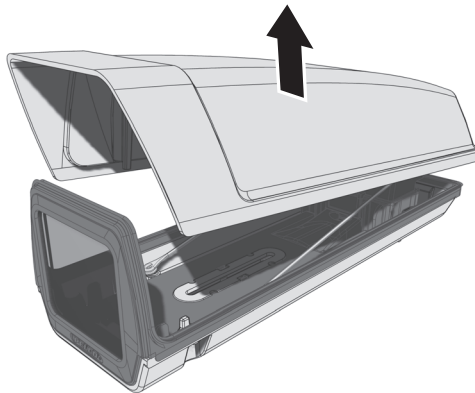

Figure 2. Removing the Lid
2. Lift up and remove the lid (refer to Figure 2). Hang the lid from the front of the enclosure base by the lanyards.